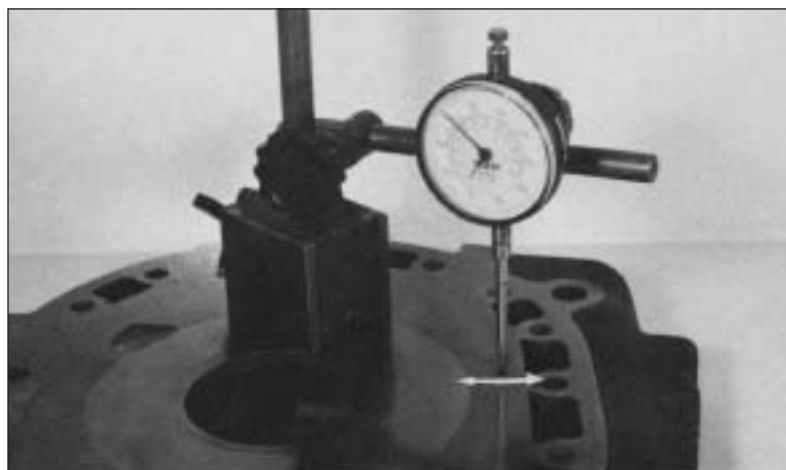

Figure 4
4. Use a dial indicator with a sharp tip and a dial indicator stand (shown in Figure 4). The allowable limit for wear is 0.1 mm (.0039"). If wear exceeds this limit, the housing must be replaced. Although replacing a damaged housing is preferred, it may also be resurfaced. Resurfacing must be done on a surface or blanchered grinder and then lapped to obtain the proper finish.